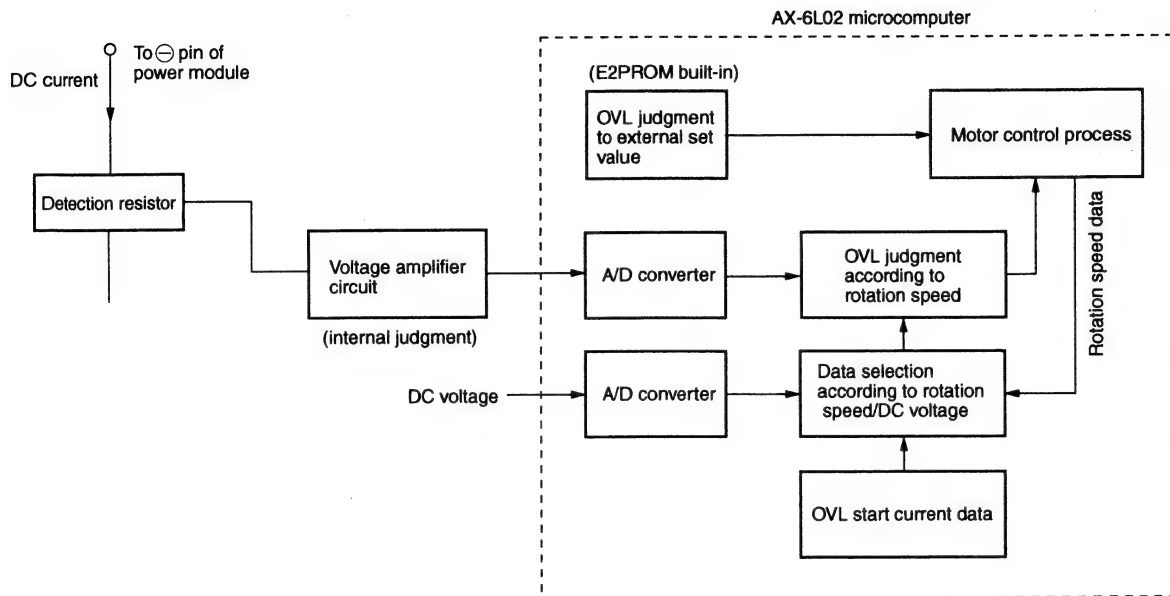
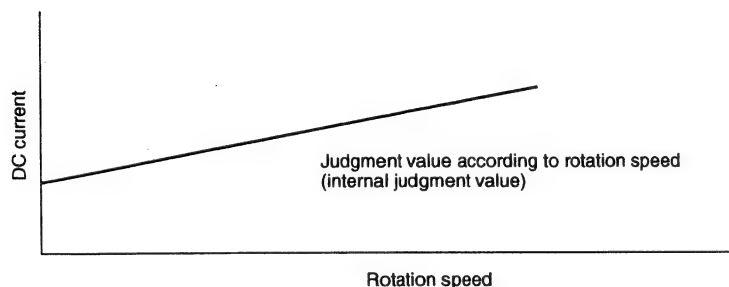

Fig. 8-1 Overload control system configuration
Fig. 8-2
- Fig 8-1 shows the overload control system configuration, and Fig. 8-2 shows characteristics diagram of overload judgment value. There are two judgments. One is external judgment: External set value and DC current value are compared for judgment regardless of rotation speed. The other is internal judgment: set value varying according to rotation speed programmed in microcomputer is compared with DC current value for judgment.